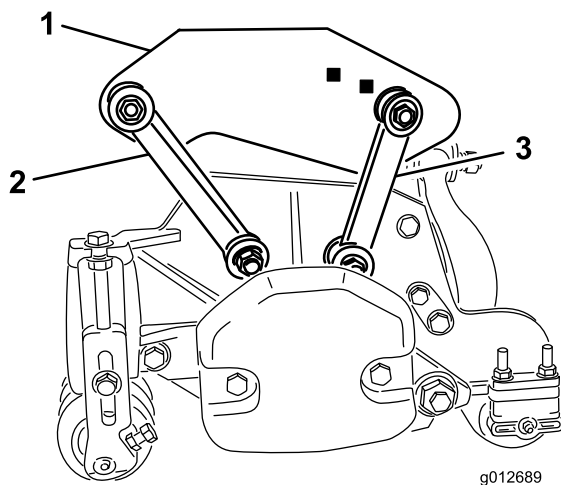

Figure 19
- Secure the front mounting links to the carrier frame holes with a bolt (3/8 x 2-1/4 inch), 2 flat washers, and a locknut, as shown in Figure 19. Position a washer on each side of the link when mounting. Torque the fasteners to 31 ft-lb (42 N-m).
- Secure the rear mounting links to the rear carrier frame holes with a bolt (3/8 x 2-1/4 inch), 2 flat washers, and a locknut, as shown in Figure 19. Position a washer on each side of the link when mounting. Torque the fasteners to 31 ft-lb (42 N-m).